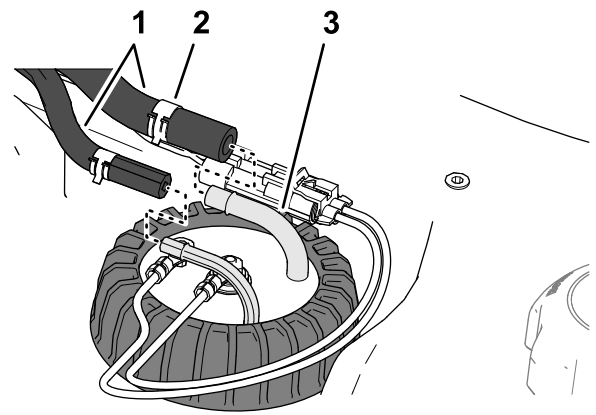

Figure 91
5. Assemble the hose onto the fittings of the fuel sender, and secure the hoses to the fittings with the clamps (Figure 91).